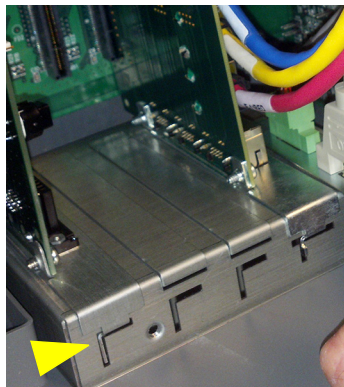

Figure A-9. Comm Module Bracket Keyed Slot
6. Place the new RS-485 Comm module(s) in the slot(s). Align the edge connector on the back of the board with the center of the vertical connector on the Comm Backplane board, then push the module board firmly in as far as it can go. The sheet metal bracket of the module slides into the comm bay slot and the front edge of the bracket goes into the keyed slot in the front of the Comm Bay (see Figure A-9).